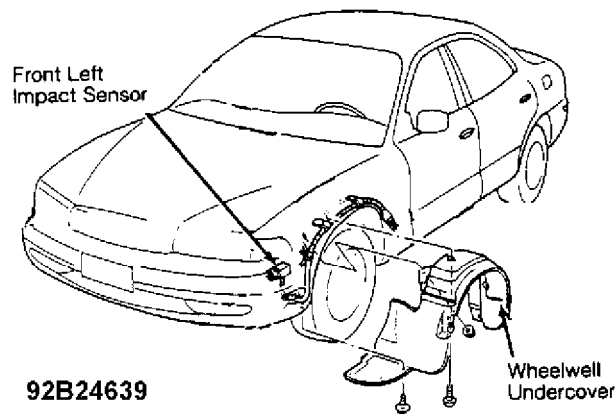

Fig. 6: Removing Left Front Impact Sensor (Right Front Is Similar)
3) To remove left or right front sensor, remove wheelwell undercover. See Fig. 6. Remove sensor bolts. Open harness retaining clips. Remove sensor and harness.